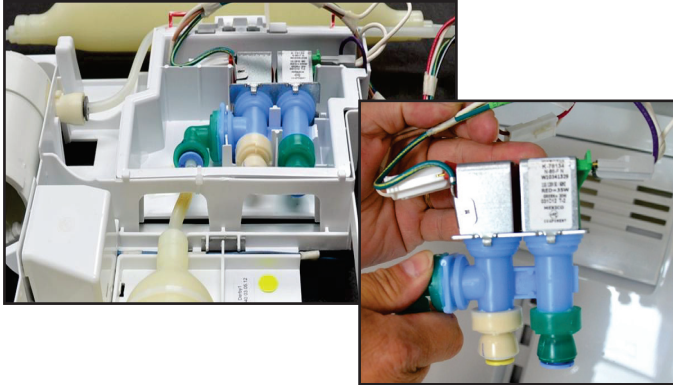

FIGURE 14
16. Lift dual water valve to remove. See *Figure 14*.